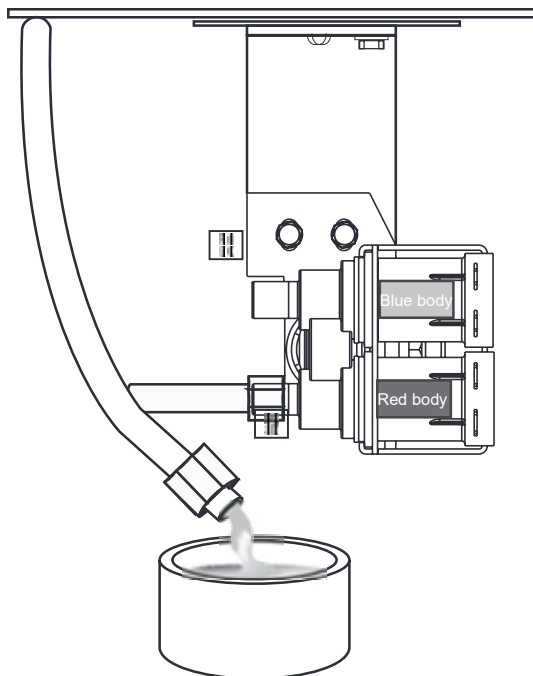

Figure 11-7. —Draining reservoir before removal.
4. Disconnect the water line at the valve and place the end in suitable container to catch the draining water. See Figure 11-7,  and .